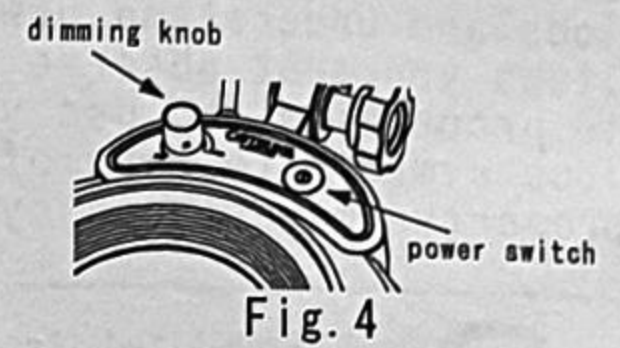

Fig.4
- The LED lamp turns on / off by pressing the power switch shown in Fig.4.
The light intensity can be adjusted with the light control knob shown in Fig4.